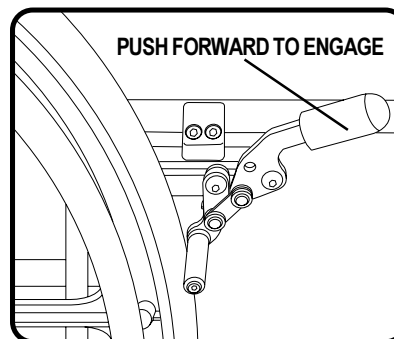

Figure 2. Right Park Brake Engaged
1. Engage both park brakes. See figure 2.
3. Make sure that both park brakes are engaged. See figure 2.